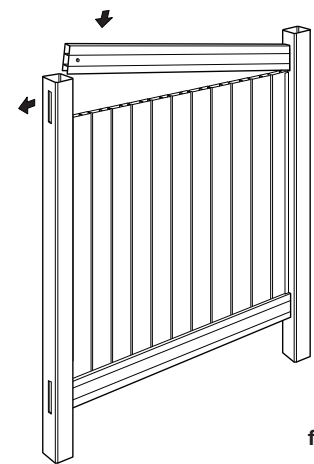

fig. 9
STEP 7 – When all pickets have been placed, secure the top rail to the top routed hole in the first post. Working from one side to the other, slide the rail over the picket(s). In order to fasten the rail into the second post, shift the post slightly until the rail can be fitted (fig 9). Once the rail is securely locked in, the pickets will form a solid panel.